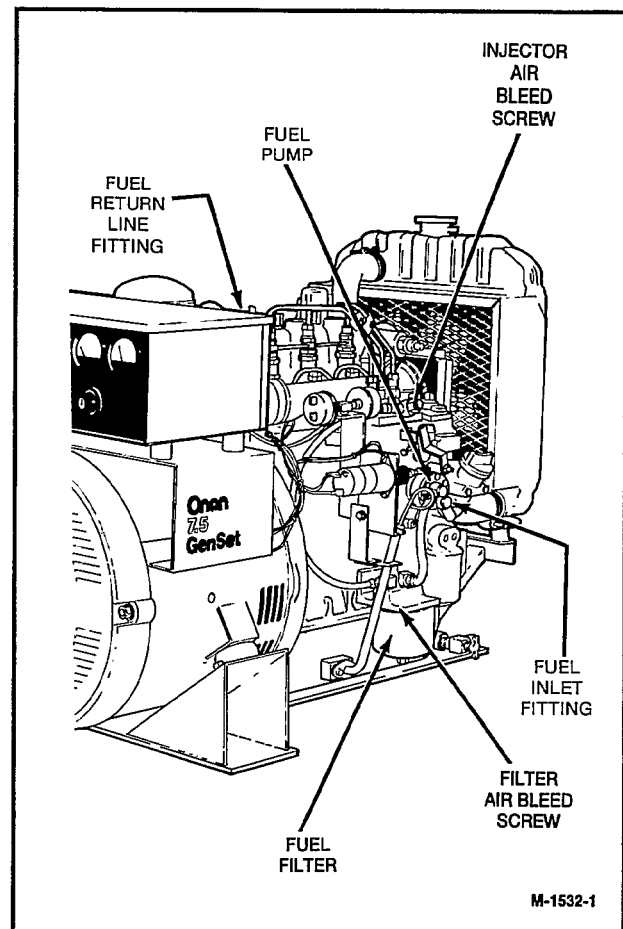

FIGURE 5-4. INJECTION PUMP FUEL SYSTEM
3. Loosen the air bleed screw at fuel filter. See Figure 5-4.
5. Loosen air bleed screw on injection pump and actuate priming lever on the transfer pump (Figure 5-4).